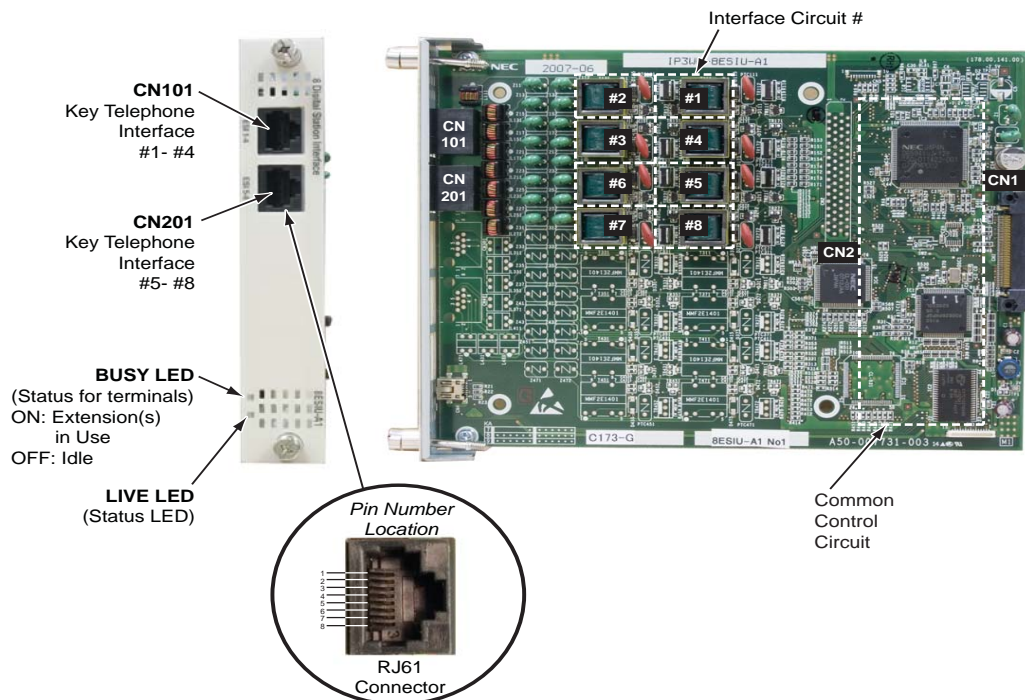

Figure 2-19: 8ESIU BLADE
2.5.1 Digital Station (8/16ESIU) Blade (Figure 2-19) - P/N 0911036 and 0911038